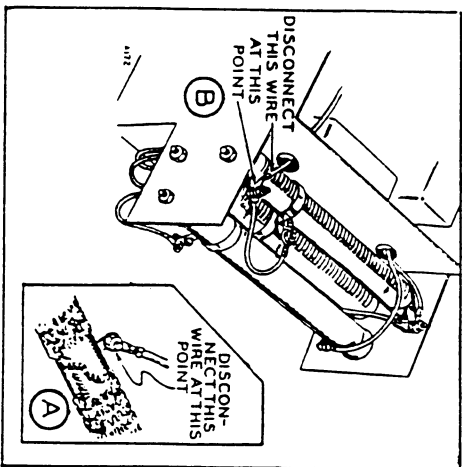

FIG. 5 - DC OUTPUT DISCONNECT POINT
needed becomes necessary on a plant designed for electric starting, the generator dc output must be disconnected from the charging circuit. Beginning with Spec H models, disconnect the center wire (connected to fixed terminal) from the charge resistor, figure 5 (A). On Spec A through G models, disconnect the single wire at the end of the 3 charge resistors, figure 5 (B). Beginning with Spec F remote starting models, the Sisson choke is used and the carburetor must be manually choked while hand cranking.